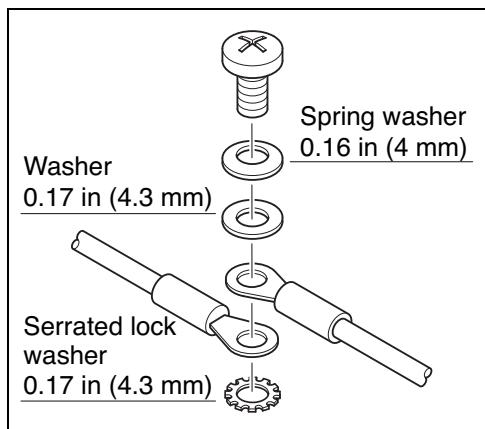

Fig. 37
- Connect the protective conductor to the PE connection (M4, tightening torque 18 lbf-in (2 Nm)), see Fig. 37. The shield can be applied to the PE connection when a shielded line is mandatory according to the control manufacturer.